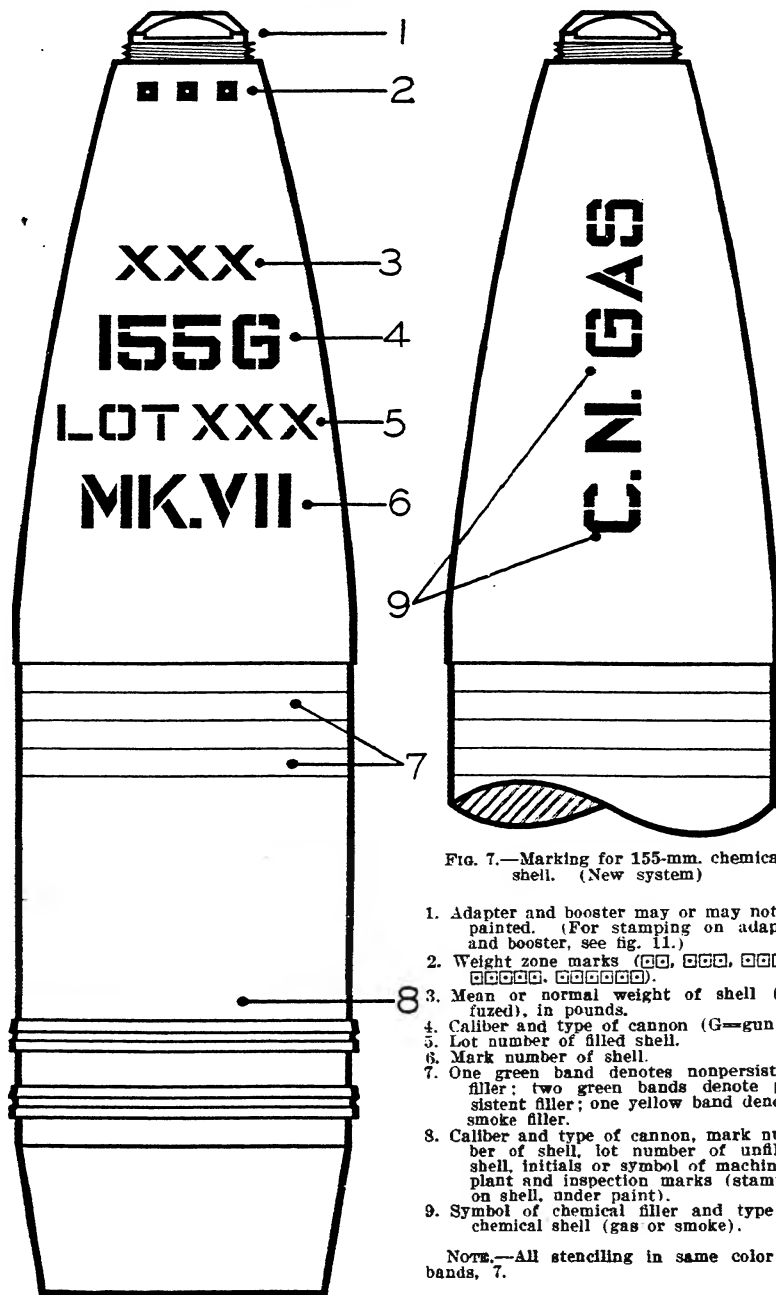

FIG. 7.—Marking for 155-mm. chemical shell. (New system)
(3) The new marking system is shown in Figure 7. In this system, for the purpose of marking, all fillers are divided into two classes, nonpersistent and persistent. Nonpersistent fillers are indicated by one green band and persistent fillers by two green bands, as follows: